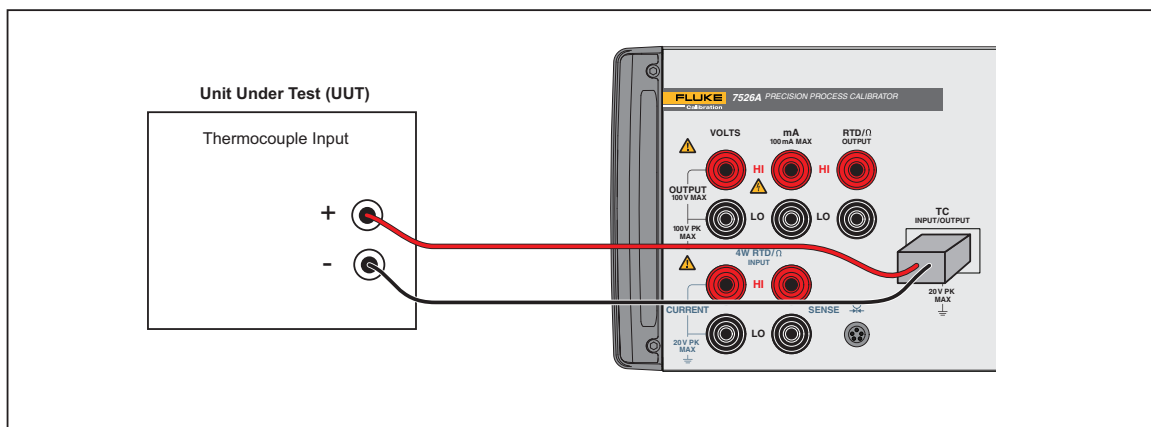

Figure 2-6. Thermocouple Output Connection
5. Connect the UUT to the thermocouple terminals of the Product with a standard TC miniplug as shown in Figure 2-6. One pin is wider than the other. Do not push the plug into the incorrect polarization. The TC wire used for the connection must agree with the thermocouple type selected for correct cold junction compensation. It is necessary for the miniplug and terminals to become stable to the same temperature. They are stable in approximately 3 minutes.